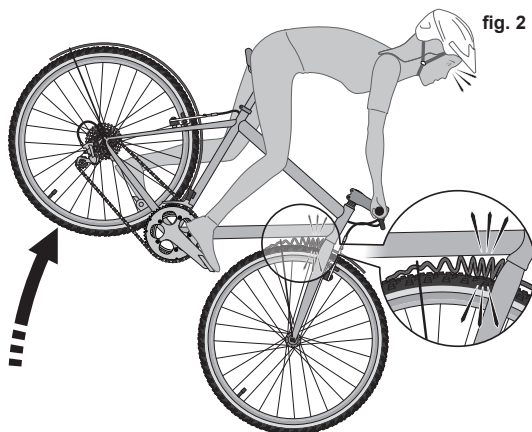

fig. 2
**WARNING:** Any object that unexpectedly and abruptly stops the rotation of the front wheel can cause the bike and rider to pitch forward (fig. 2), which can result in serious injury or death.